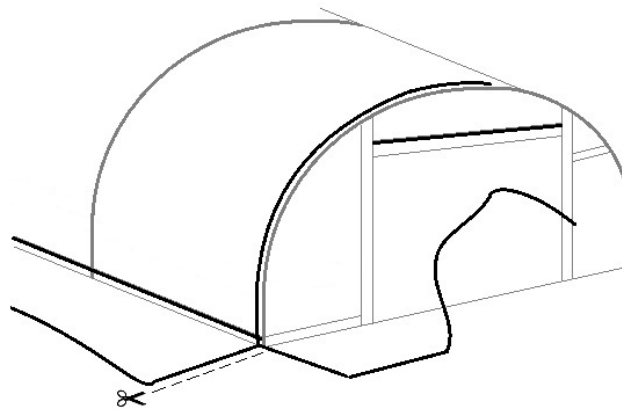

Fig123
- **STEP 3:** With just the four corners and the door frames left, it will now be necessary to cut the polythene at the corners, but **ONLY** below the base/side rails, to allow the cover to come smoothly around the ends (**Fig123**). It is important that the cover is cut in line with the end of the tunnel, **NOT** the length.